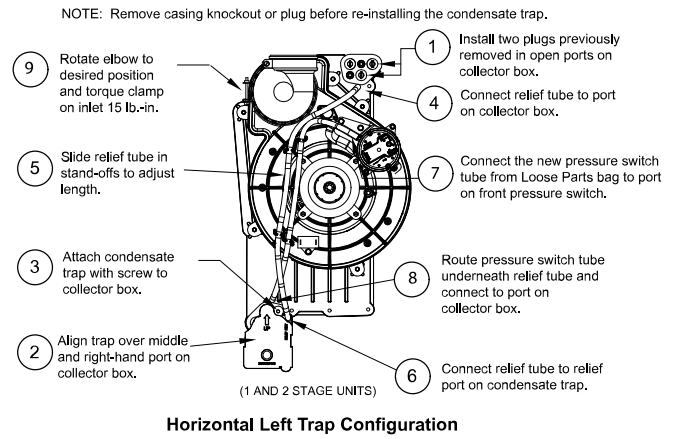
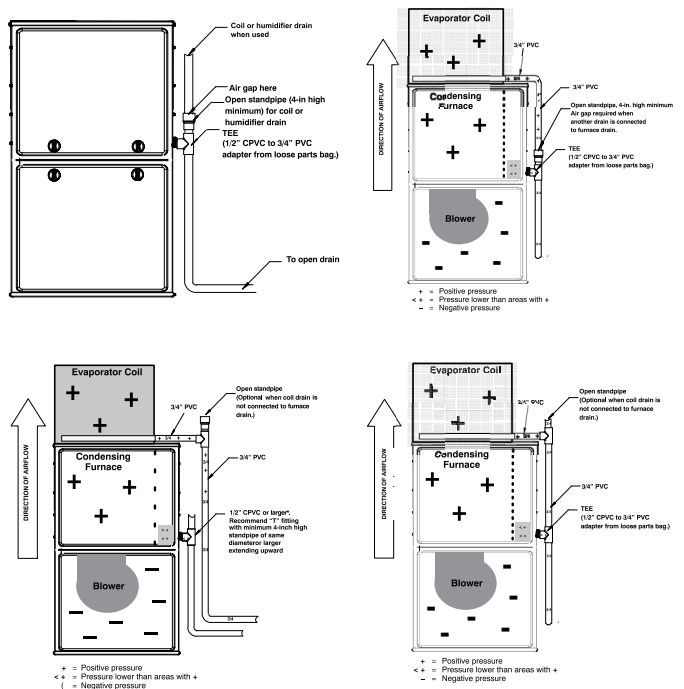

**Fig. 10 – Horizontal Right Trap Configuration
**Fig. 11 – Horizontal Left Configuration
When the furnace is installed in the horizontal right position, the condensate trap will be initially located at the bottom of the collector box, as received from the factory. See the top image in Fig. 10. When the furnace is installed in the horizontal left position, the condensate trap will be initially located at the top of the collector box, as received from the factory. See the top image in Fig. 11. In both cases the trap must be repositioned on the collector box for proper condensate drainage. See the bottom images in Fig. 10 and Fig. 11.
- Fig. 10 shows the condensate trap and tubing before and after relocation in the horizontal right position.
- Fig. 11 shows the condensate trap and tubing before and after relocation in the horizontal left position.